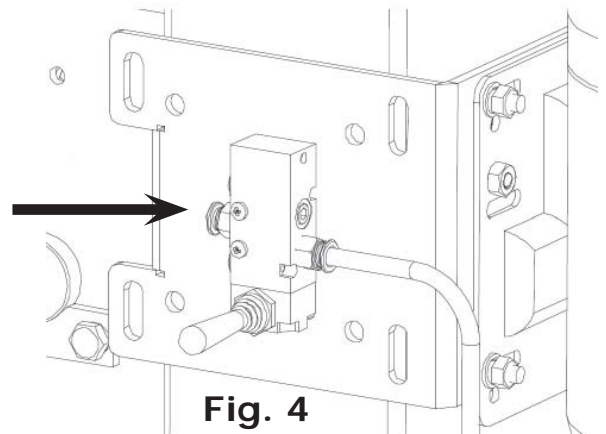

Fig. 4
- Connect the air pump to the pneumatic supply at site or the control valve (ref. fig. 4) if it is available on the lift using the supplied hose with the proper length cut.